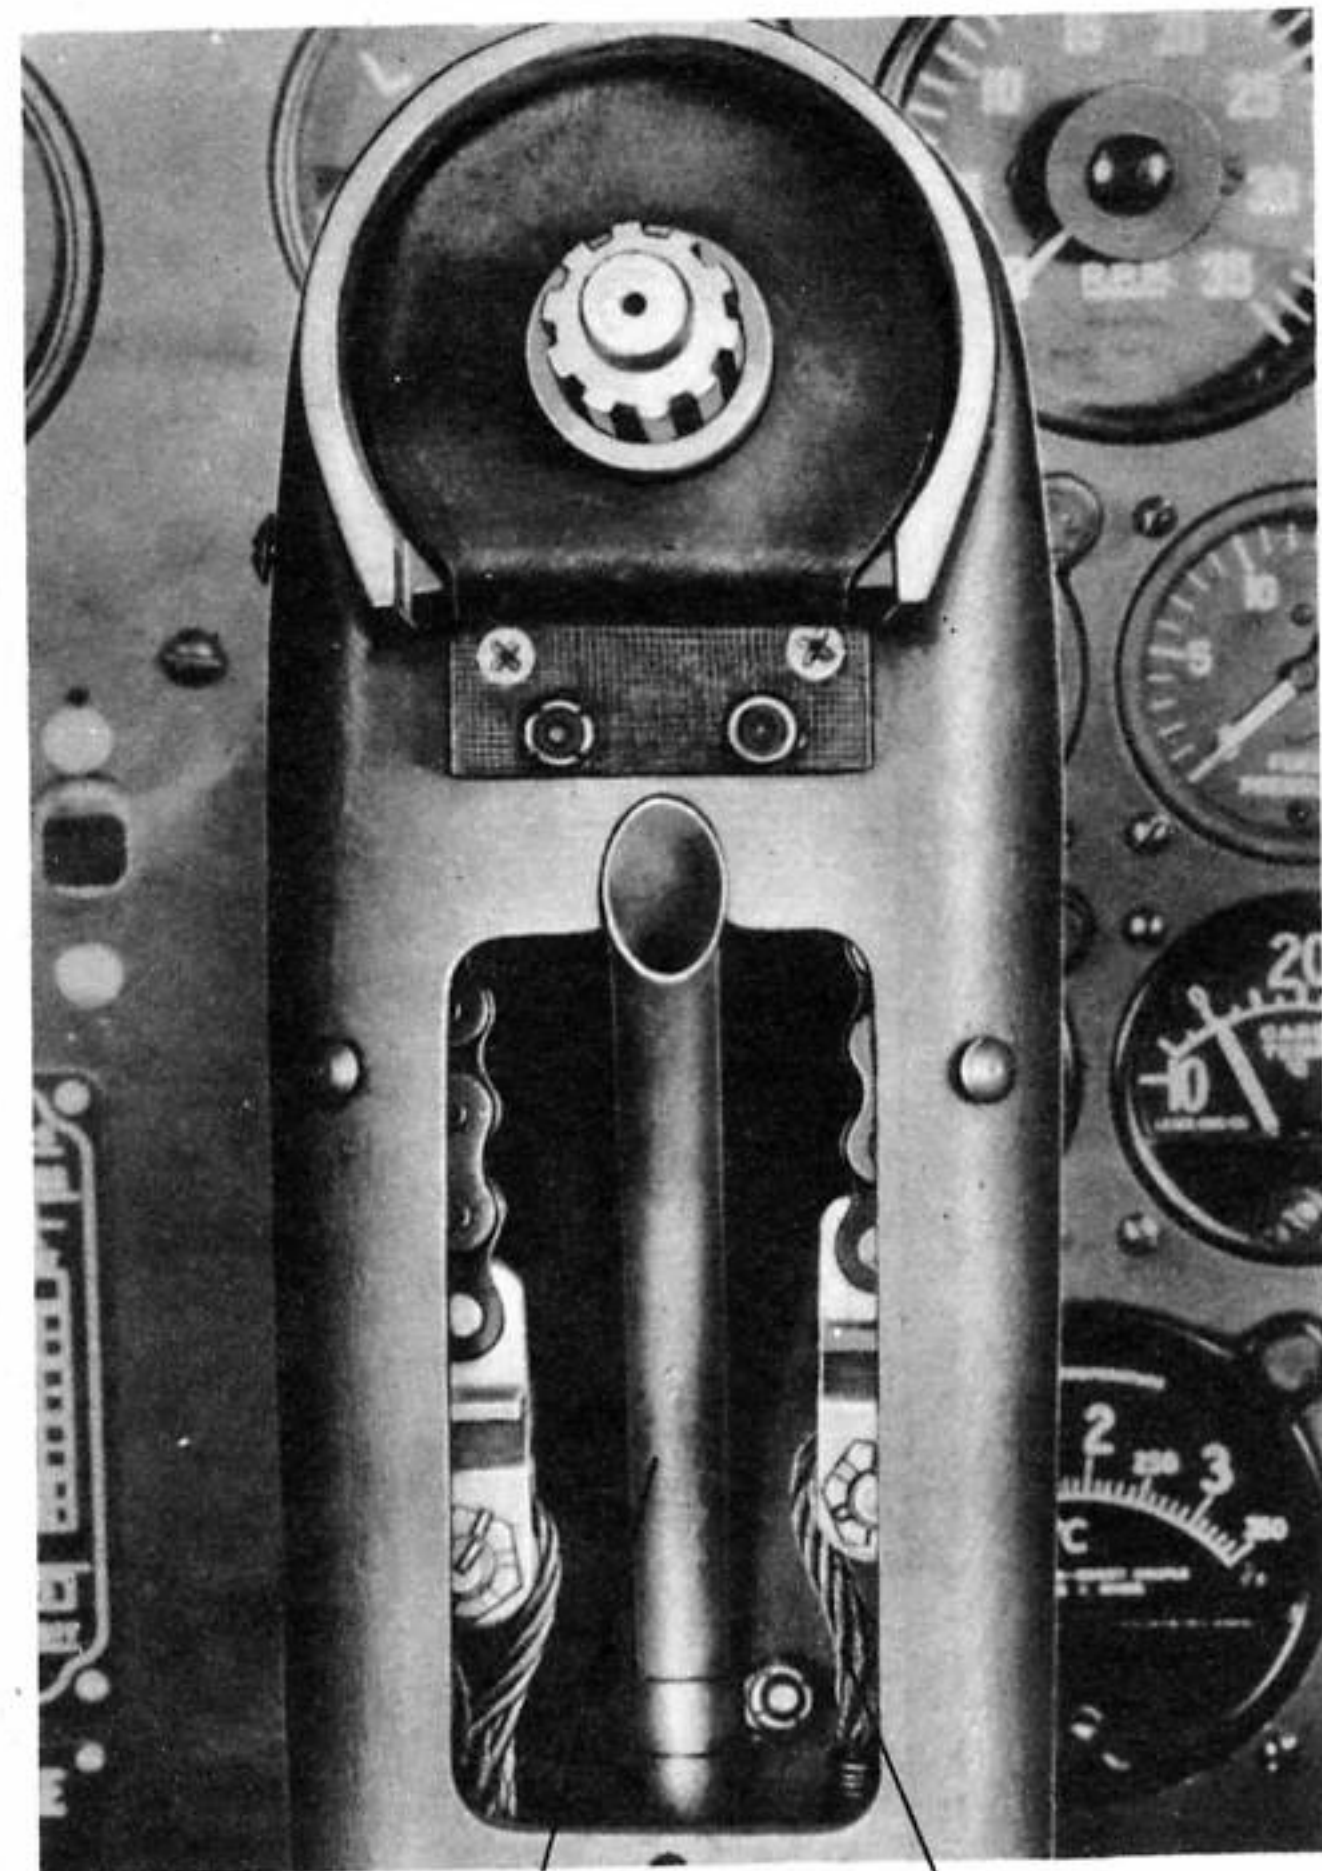

Figure 173 - CONTROL COLUMN - TOP COVER PLATE AND WHEEL REMOVED
1. Remove the cover plate (facing aft) on the control column under the wheel. (See figure 173.) Remove the two electrical wires from the terminals. At the left side of the torque tube unscrew the breeze fitting and pull out the wires.
(d) Remove the cover plate (facing forward) at the top of the column. (See figure 173.)
(1) ASSEMBLY OF CONTROL COLUMN.
- (h) Install the cover plate (facing forward) at the top of the column. (See figure 173.)
(2) INSTALLATION OF CONTROL COLUMN